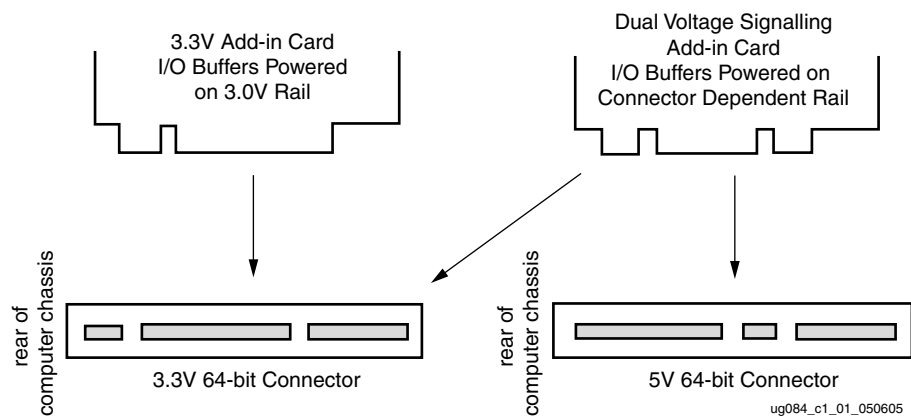

Figure 1-1: Add-in Card Connectors
This kit provides a development platform for designing and verifying Virtex™-4 FPGA based PCI and PCI-X applications utilizing Xilinx PCI LogiCORE™ intellectual property (IP) cores in a 3.3V signaling environment. The ML455 is intended to plug-in to a 3.3V keyed system board. The ML455 board is not a Universal add-in card nor is it intended to plug into a 5V keyed system board. Figure 1-1 shows how to identify a 3.3V system board slot (left side) from a non-supported 5V-system board slot (right side).